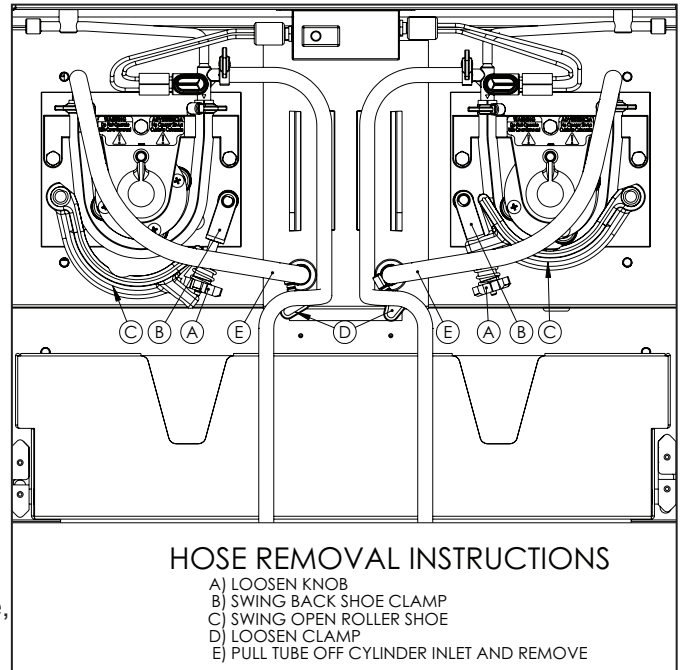

Figure 8-4 MTS
8. Remove the MTS hose assemblies form the Mix Transfer Systems as follows (figure 8-4):